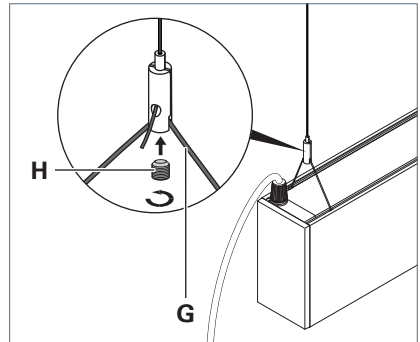

Fig. 16: Fastening the luminaire to the wire rope holder.
- ▶ Insert the wire rope **G** of the luminaire into the wire rope holder, see Fig. 16.